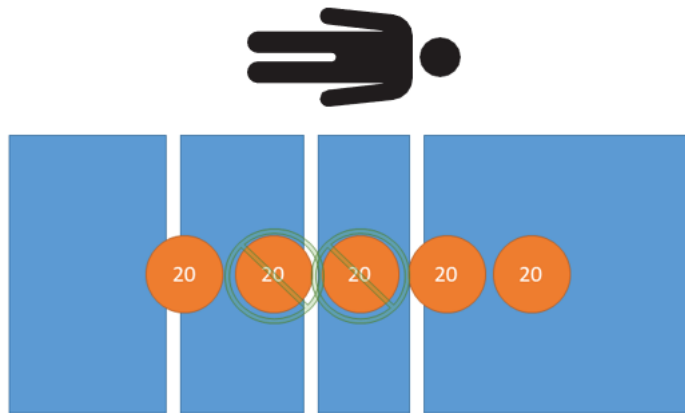

Figure 29 – Tare test - 60 kg net
4. Using calibrated weights, place 60 kg on the product (Figure 29).
10. Using calibrated weights, place 60 kg on the product (Figure 29).